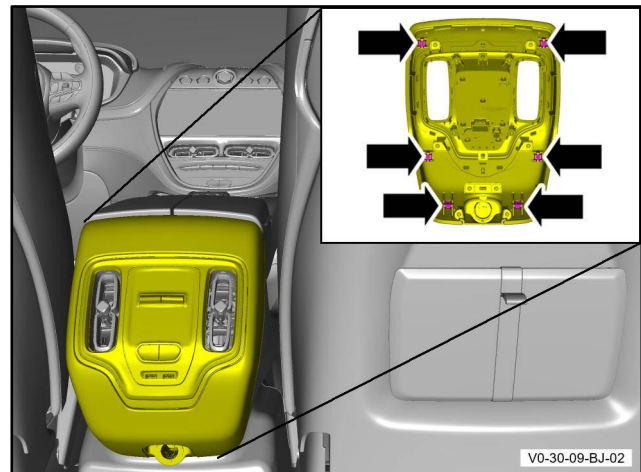

Figure 8
6. Install the end cap to the centre console (refer to Figure 8).